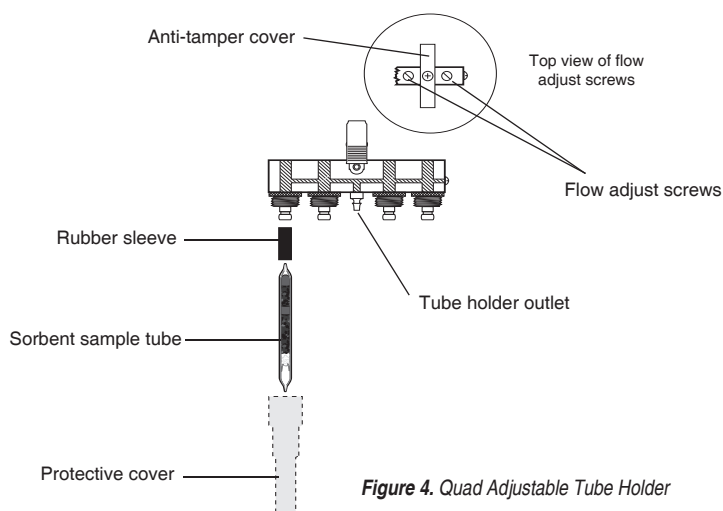

Figure 4. Quad Adjustable Tube Holder
Using Multiple-tube Adjustable Tube Holder (Figure 4)
- a. Connect the adjustable tube holder (Figure 4) to the pump inlet (Figure 1) using the attached 1/4-inch Tygon tubing. See right.
- b. Insert an opened sorbent tube into each rubber sleeve of the tube holder (Figure 4). **Ensure that the arrow on each tube points toward the tube holder.**
6. Loosen and turn the brass flow adjust screw (*Figure 4*) on the port of the appropriate tube holder (**counterclockwise to increase, clockwise to decrease**) until the desired flow rate is achieved. **Note:** For tri and quad models, first rotate each anti-tamper cover (*Figures 4 and 5*) to expose the flow adjust screws, then adjust the appropriate one until the flowmeter indicates the desired flow.